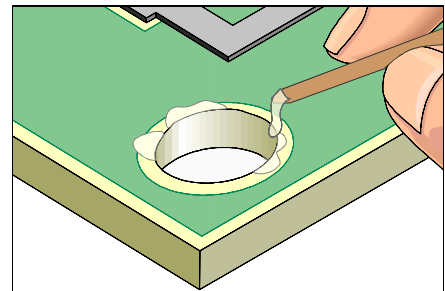

Figure 2: Apply epoxy with a mixing stick sharpened at one end.
6. Coat the area with epoxy up to and flush with the PC board surface. A mixing stick may be used to apply and spread the epoxy. (See Figure 2).